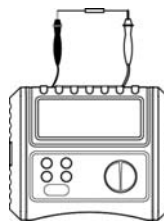

Figure 3
## VIII. Testing for Continuity (See Figure 3)
- (1) Completely discharge the circuit to be tested before commencing any measurement. Ensure the circuit remains isolated from any power source during the test.
- (2) Insert red test lead/probe into red input terminal and black test lead to black input terminal.
- (3) Connect the red and black test leads/probe to the circuit under test.
- (4) Turn the rotary switch to 0 position, then press TEST button to begin. Refer to Figure 3 for details.